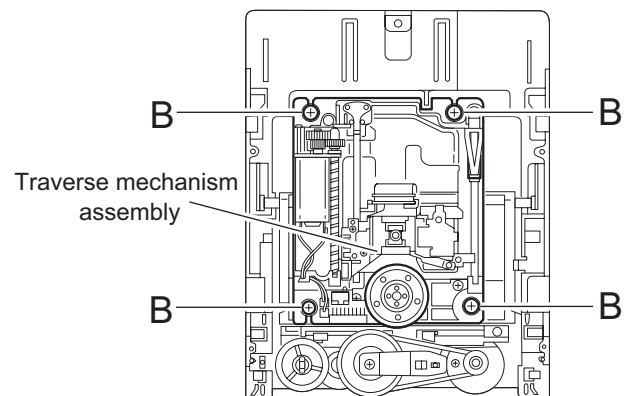

Fig.5
2.3.4 Removing the traverse mechanism assembly (See Fig.5, 6)